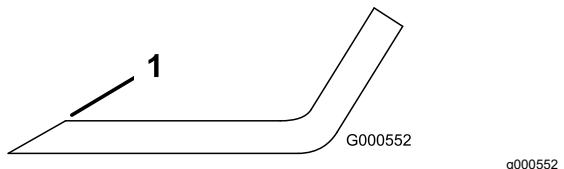

Figure 100
1. Use a file to sharpen the cutting edge at both ends of the blade (Figure 100).
**Note:** If the blade is not balanced, file some metal off the end of the sail area only (Figure 100).